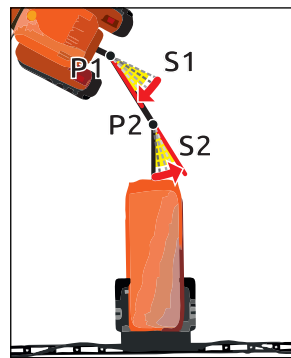
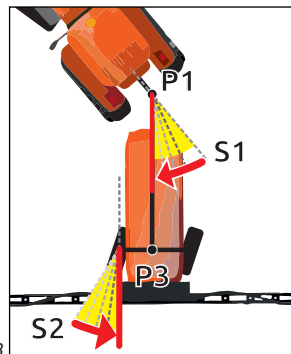

Fig. 21
Fig. 23
- measures angle position **S1** (Fig. 21 - Fig. 23);